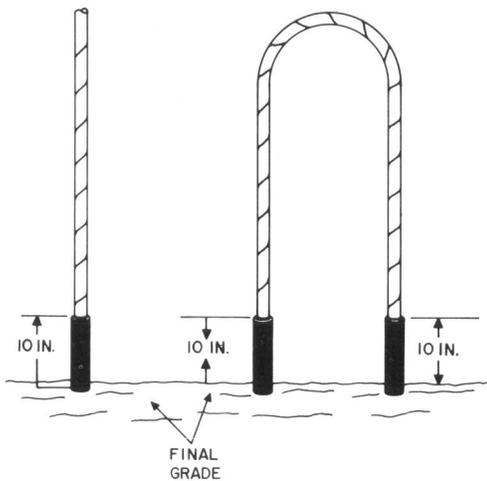

Fig. 12—Cable Sheath Removed
5.02 Remove the outer polyethylene jacket and metallic shield from the cable as shown in Fig. 12. **Do not remove core wrap at this time.**